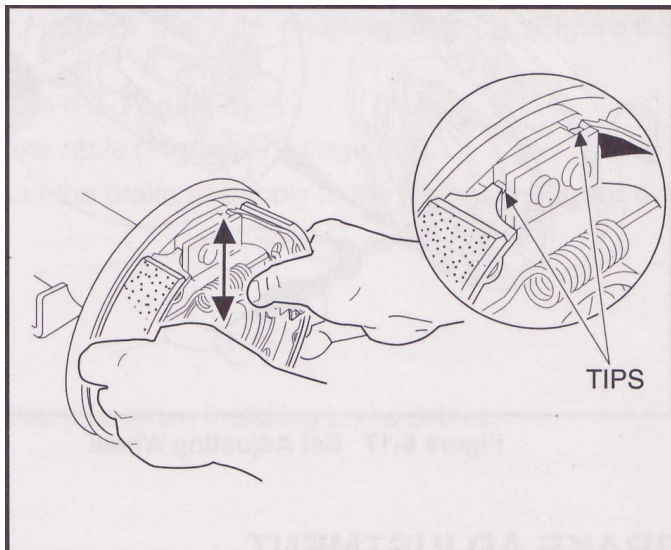

Figure 6-16
5. After the shoes are installed, move them together up and down and side to side to make sure that they will easily slide approximately $\frac{1}{4}$ to $\frac{3}{8}$ inch (6.3 to 9.5mm) without binding (Figure 6-16).